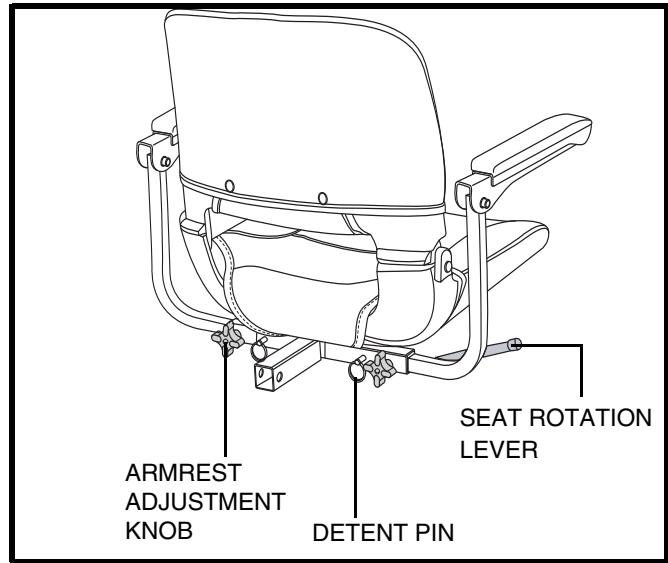

Figure 20. Seat Adjustments
1. Loosen the armrest adjustment knobs. See **figure 20**.